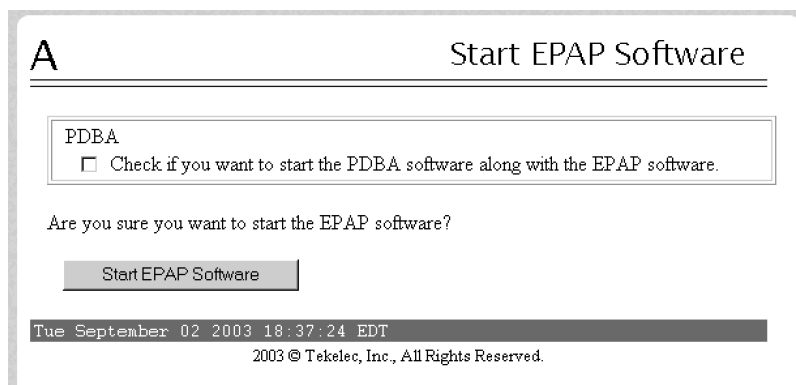

Figure 53: Start EPAP Software
7. From the **Start EPAP Software** screen, make sure the checkboxes are checked as shown in Figure 53: Start EPAP Software: